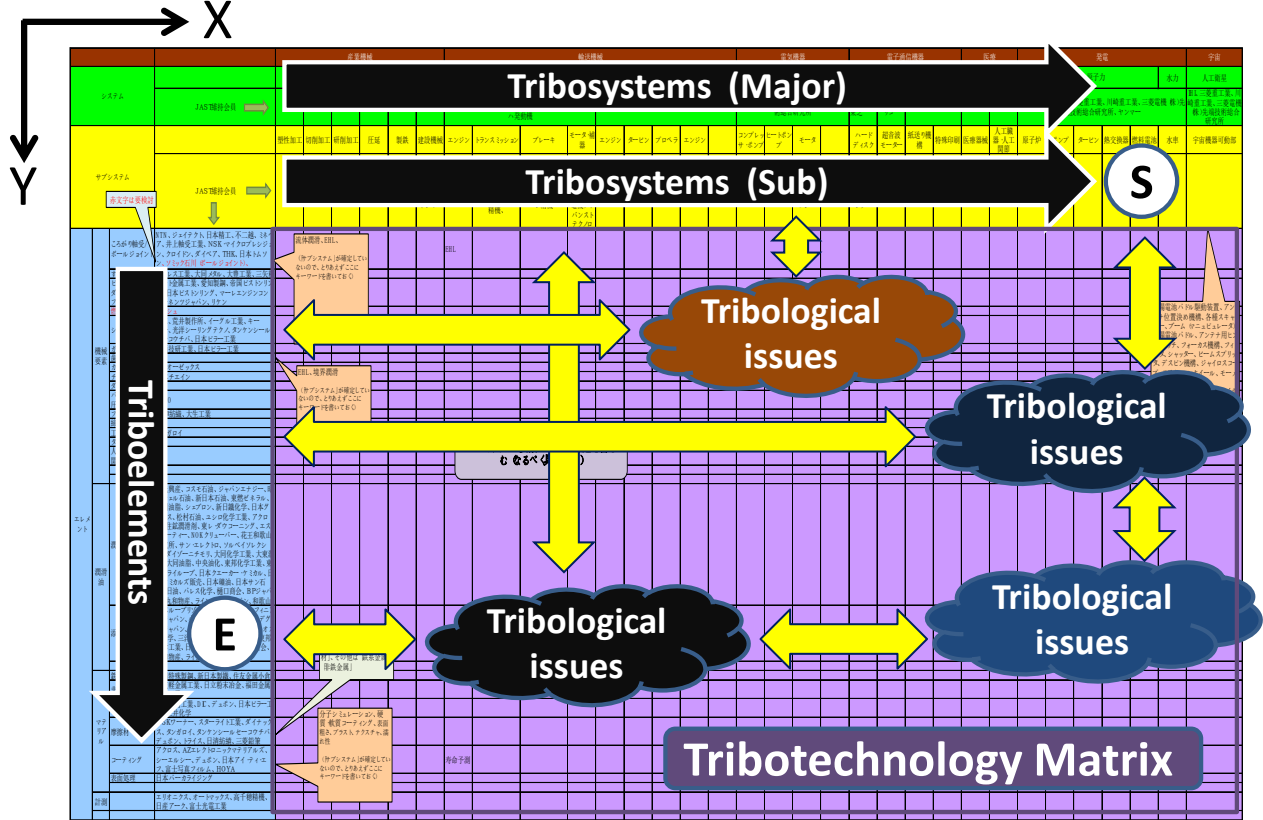

Figure1 Outline of overlooking map of tribotechnology
Figure 1 shows the outline of the map. The map consists of horizontal (X), vertical (Y) axes and matrix area. The X axis represents the array of major or sub tribosystems to be developed or upgraded and Y axis represents the array of triboelements of today, and the